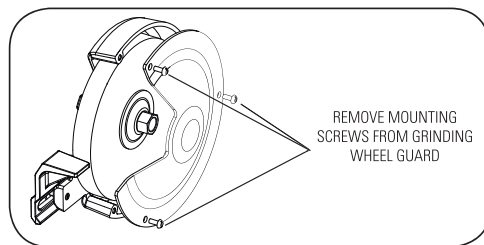

FIGURE 9.2
2. Remove the guards of the grinding wheel to be replaced (Figure 9.2). Immediately replace cracked or damaged wheels